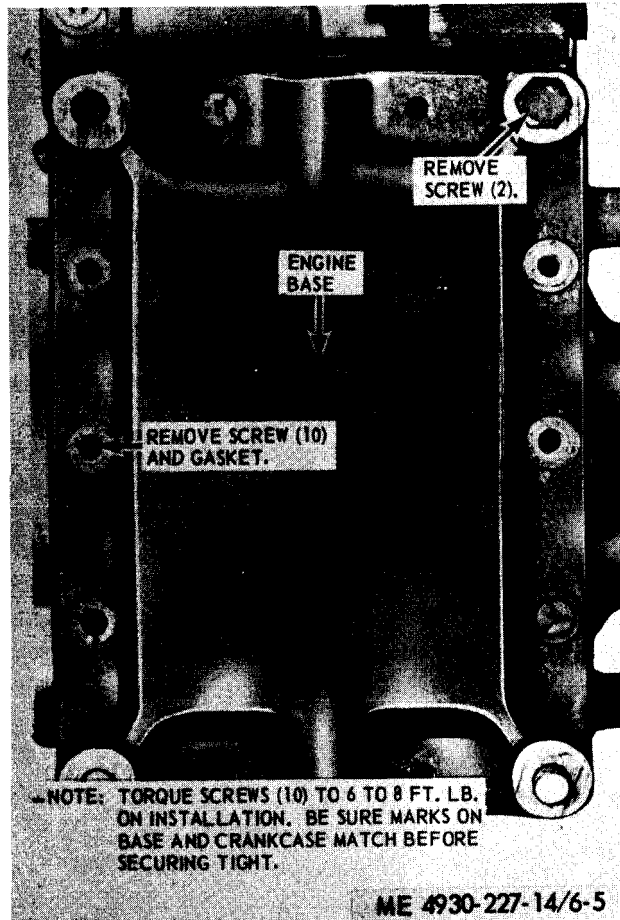

Figure 6-5. Engine base and oil pump, removal and installation.
- (1) Remove the engine (para 3-17).
- (2) Refer to figure 6-5 and remove the engine base and oil pump.
- (1) Refer to figure 6-5 and install the engine base and oil pump.
- (2) Install the engine (para 3-17).